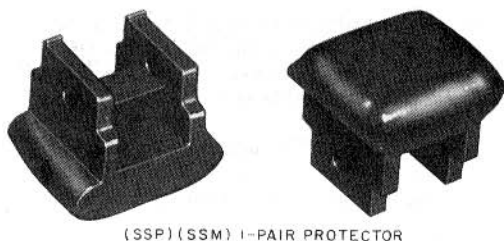

Fig. 5—AT-8660 F Clip Terminal Insulator
2.08 The AT-8660 F clip terminal insulator (Fig. 5) is used to mark special service circuits requiring Special Service Protection or Special Safeguarding Measures. The F clip terminal insulator